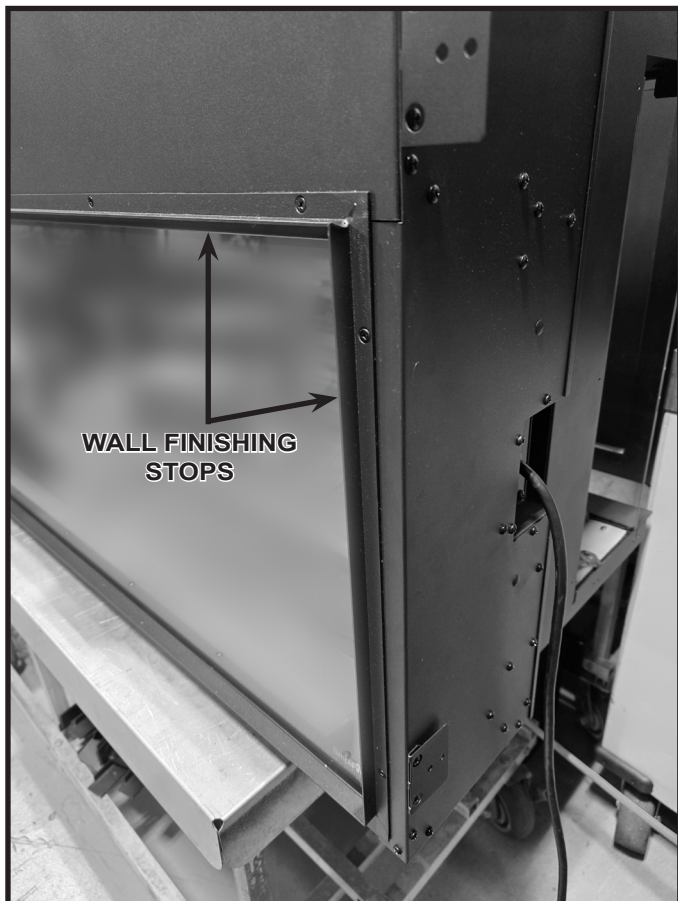

Figure 4.9 Wall Finishing Stop Locations
3. If finishing with painted drywall or another desired facing material less than one inch in total thickness, install the material so that it mates with the finishing stops around the appliance opening or does not exceed one (1) inch. See Figure 4.9.
5. Install the front into the appliance opening, ensuring that the front fits snug against the finished wall. Use four (4) M4x8 screws and washers, two (2) on each side, to attach to the inside of the appliance.
6. With the Front attached, install the side panels into the slot located on the inside top of the appliance. When engaged, slide the bottom of the panel toward the side and screw into place with two (2) ST4x8 screws on each side.
3. Complete finishing of the wall around the appliance. Finishing materials can be installed up to the finishing stops. See Figure 4.9. There is no limitation to thickness of decorative facing materials.